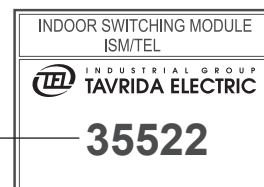

Figure 7
- Handling symbols for transport and storage of the delivery unit (Figure 7)